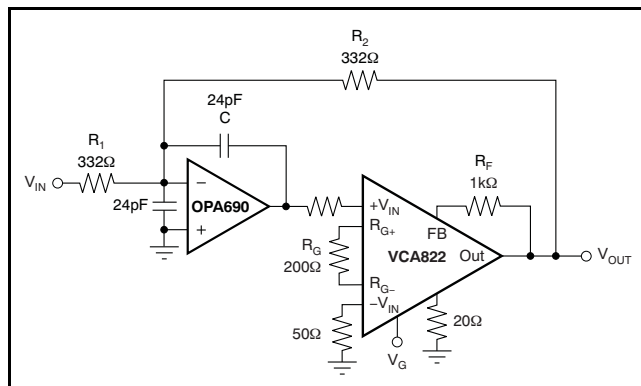

Figure 86. Voltage-Control Low-Pass Filter
In the circuit of Figure 86, the VCA822 serves as the variable-gain element of a voltage-controlled low-pass filter. This section discusses how this implementation expands the circuit voltage swing capability over that normally achieved with the equivalent multiplier implementation. The circuit control voltage, V_G , is calculated as according to the simplified relationship in Equation 4:
Because the VCA822 is most linear in the midrange, the median of the adjustable pole should be set at $V_G = 0V$ (see Figure 26, Figure 46, Figure 67, and Equation 6). Selecting $R_1 = R_2 = 332\Omega$, and targeting a median frequency of 10MHz, the capacitance (C) is 24pF. Because the OPA690 was selected for the circuit of Figure 86, and in order to limit peaking in the OPA690 frequency response, a capacitor equal to C was added on the inverting mode to ground. This architecture has the effect of setting the high-frequency noise gain of the OPA690 to $+2V/V$, ensuring stability and providing flat frequency response.